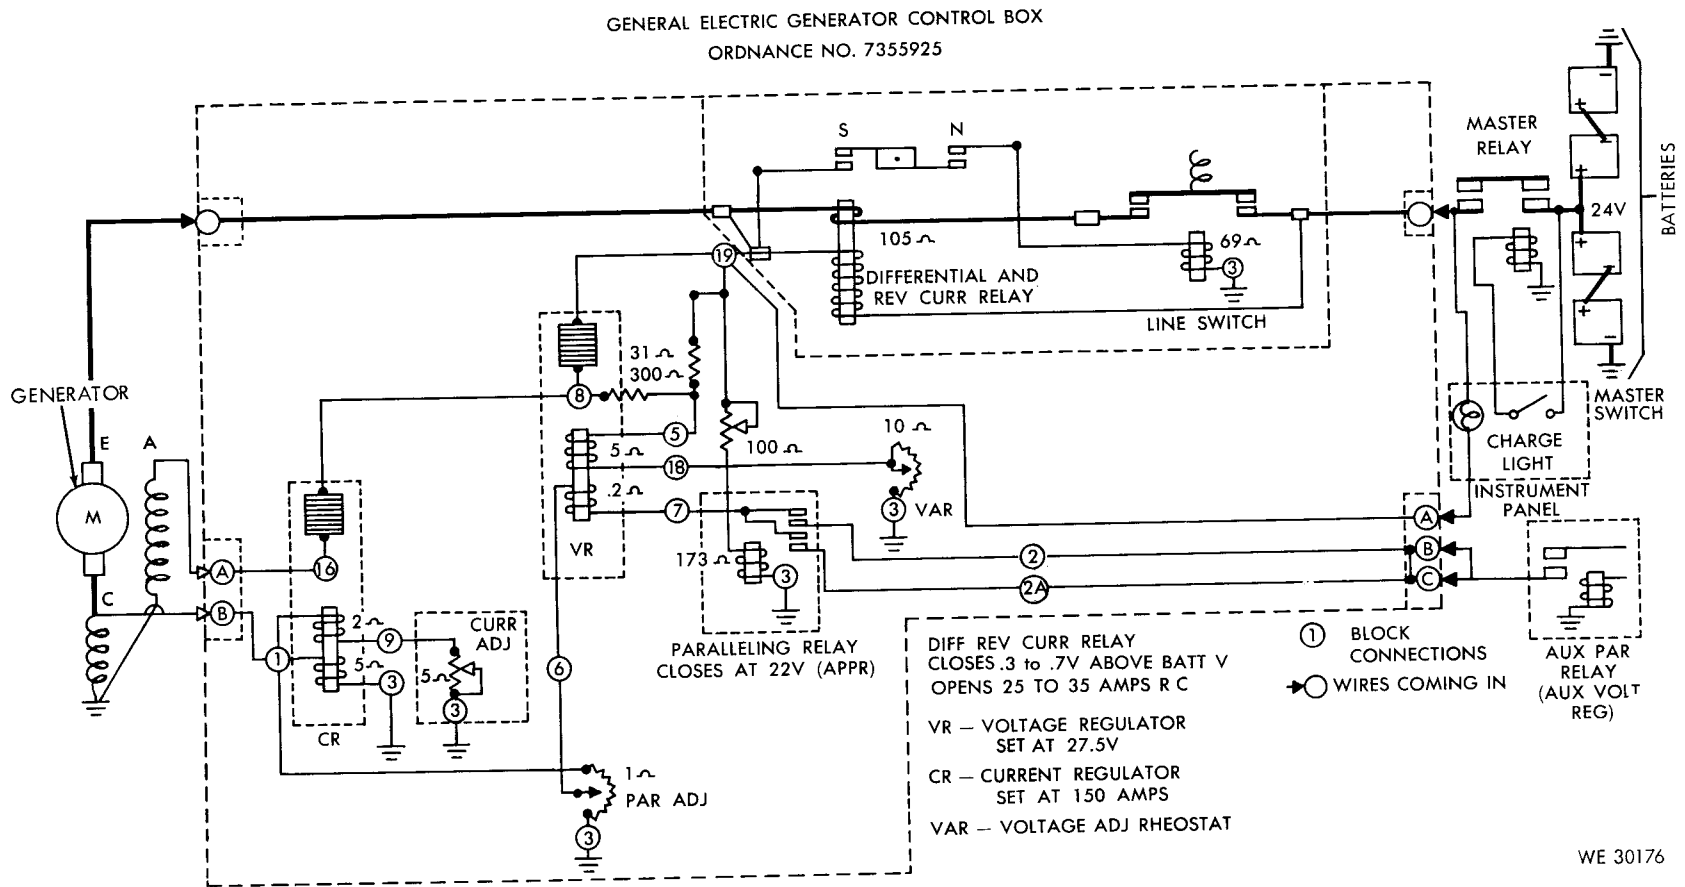

Figure 40. Wiring diagram for General Electric, ordnance no. 7355925, 150-ampere generator control box—complete hook-up to vehicle electrical system.
The General Electric 150-ampere generator control box (fig. 40) is designed for use with a generator that has a current output of 150-amperes (par. 117). The generator control box is composed of a series of control units which function in unison to regulate the output voltage and limit the output current of the generator. It also automatically connects or disconnects the generator to or from the electrical system dependent upon the need for, or ability of the generator to supply the electrical energy requirements, therefore, maintaining a sufficient output to keep the unit under charge at its maximum electrical capacity and/or controls the output of the generator within allowable limits preventing a burned-out generator. The individual control units and components used in the construction of the control box are listed in paragraph 122.
a. Purpose. This test is performed to indicate the functioning of the control units of the 150-ampere generator control box (fig. 40) and whether setting adjustments are required to the units so they perform in accordance with manufacturer's specifications.